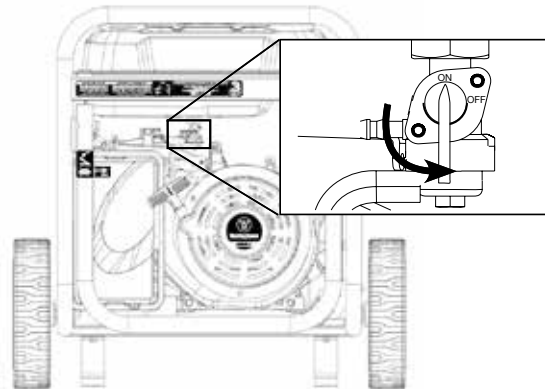

Figure 9 - Fuel Shut Off - ON
- ① 240/120V Main Circuit Breaker Operating Position
- ② 240/120V Main Circuit Breaker Tripped Position
- ③ 120V Circuit Breaker Operating Position
- ④ 120V Circuit Breaker Tripped Position
4. Move the fuel shutoff valve to the **ON** position (see Figure 9).
4. Move the fuel shut off valve to the ON position (see Figure 9).